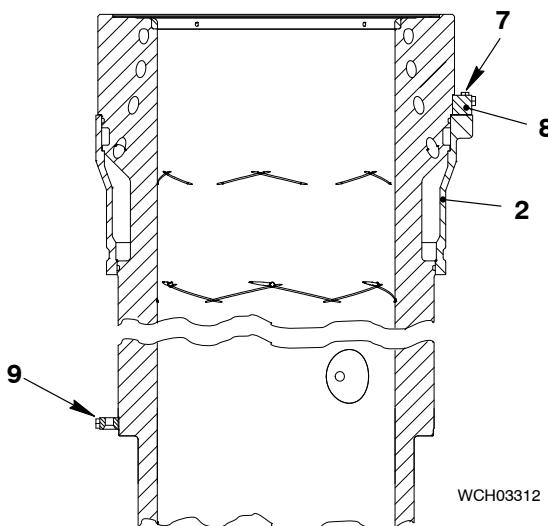

Fig. 6
- 8) Remove the holder (9, Fig. 6).
- 9) Loosen the three screws (7).
- 10) If the water guide jacket (2) does not come away from the cylinder liner, do step a) and step b):
- a) Put the three screws (7) in the threaded holes of the holder (8).
- b) Turn equally the three screws (7) to push down the water guide jacket.
- 12) Remove the manual ratchets (94016-006, 94016-015) from the three eye bolts (1) and the shackles (94018A).